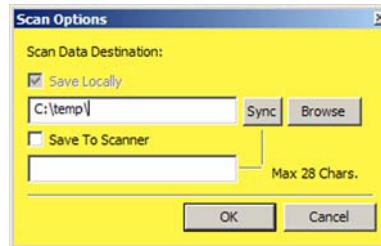

Figure 77: Scan Options window
2. On the Controller interface, click the **Options** button at bottom right. The Scan Options box appears (Figure 77).